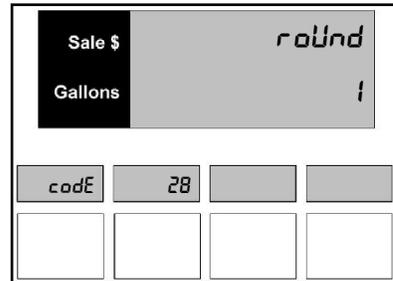

Figure 28.1 – Rounding Sale Amount.
1. Press the number **2** and **8**, then the **Mode** button on the keypad. The PPV display shows the dispenser is in Menu Code 28. If the dispenser has not been programmed since it came from the factory, the number 1 appears in the main display. This is the default setting as shown in *Figure 28.1*.